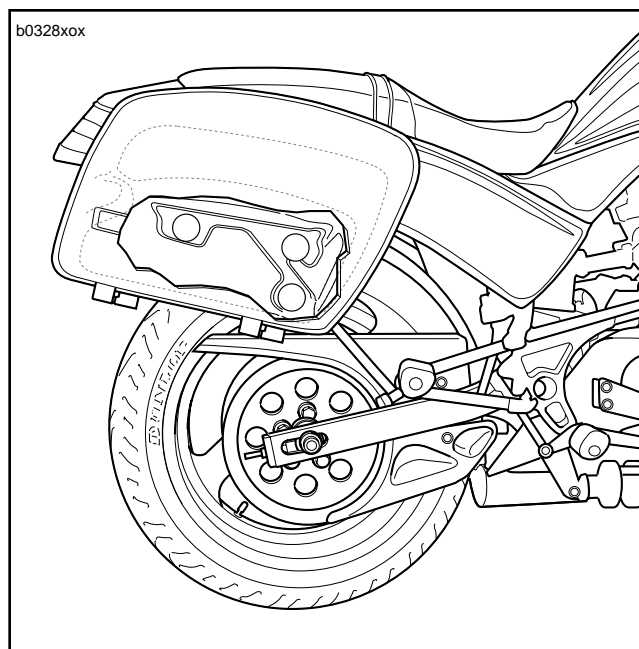

Figure 6. Saddlebags
1. See Figures 6 and 8. To install the saddlebags, first remove the lids from the saddlebag body.